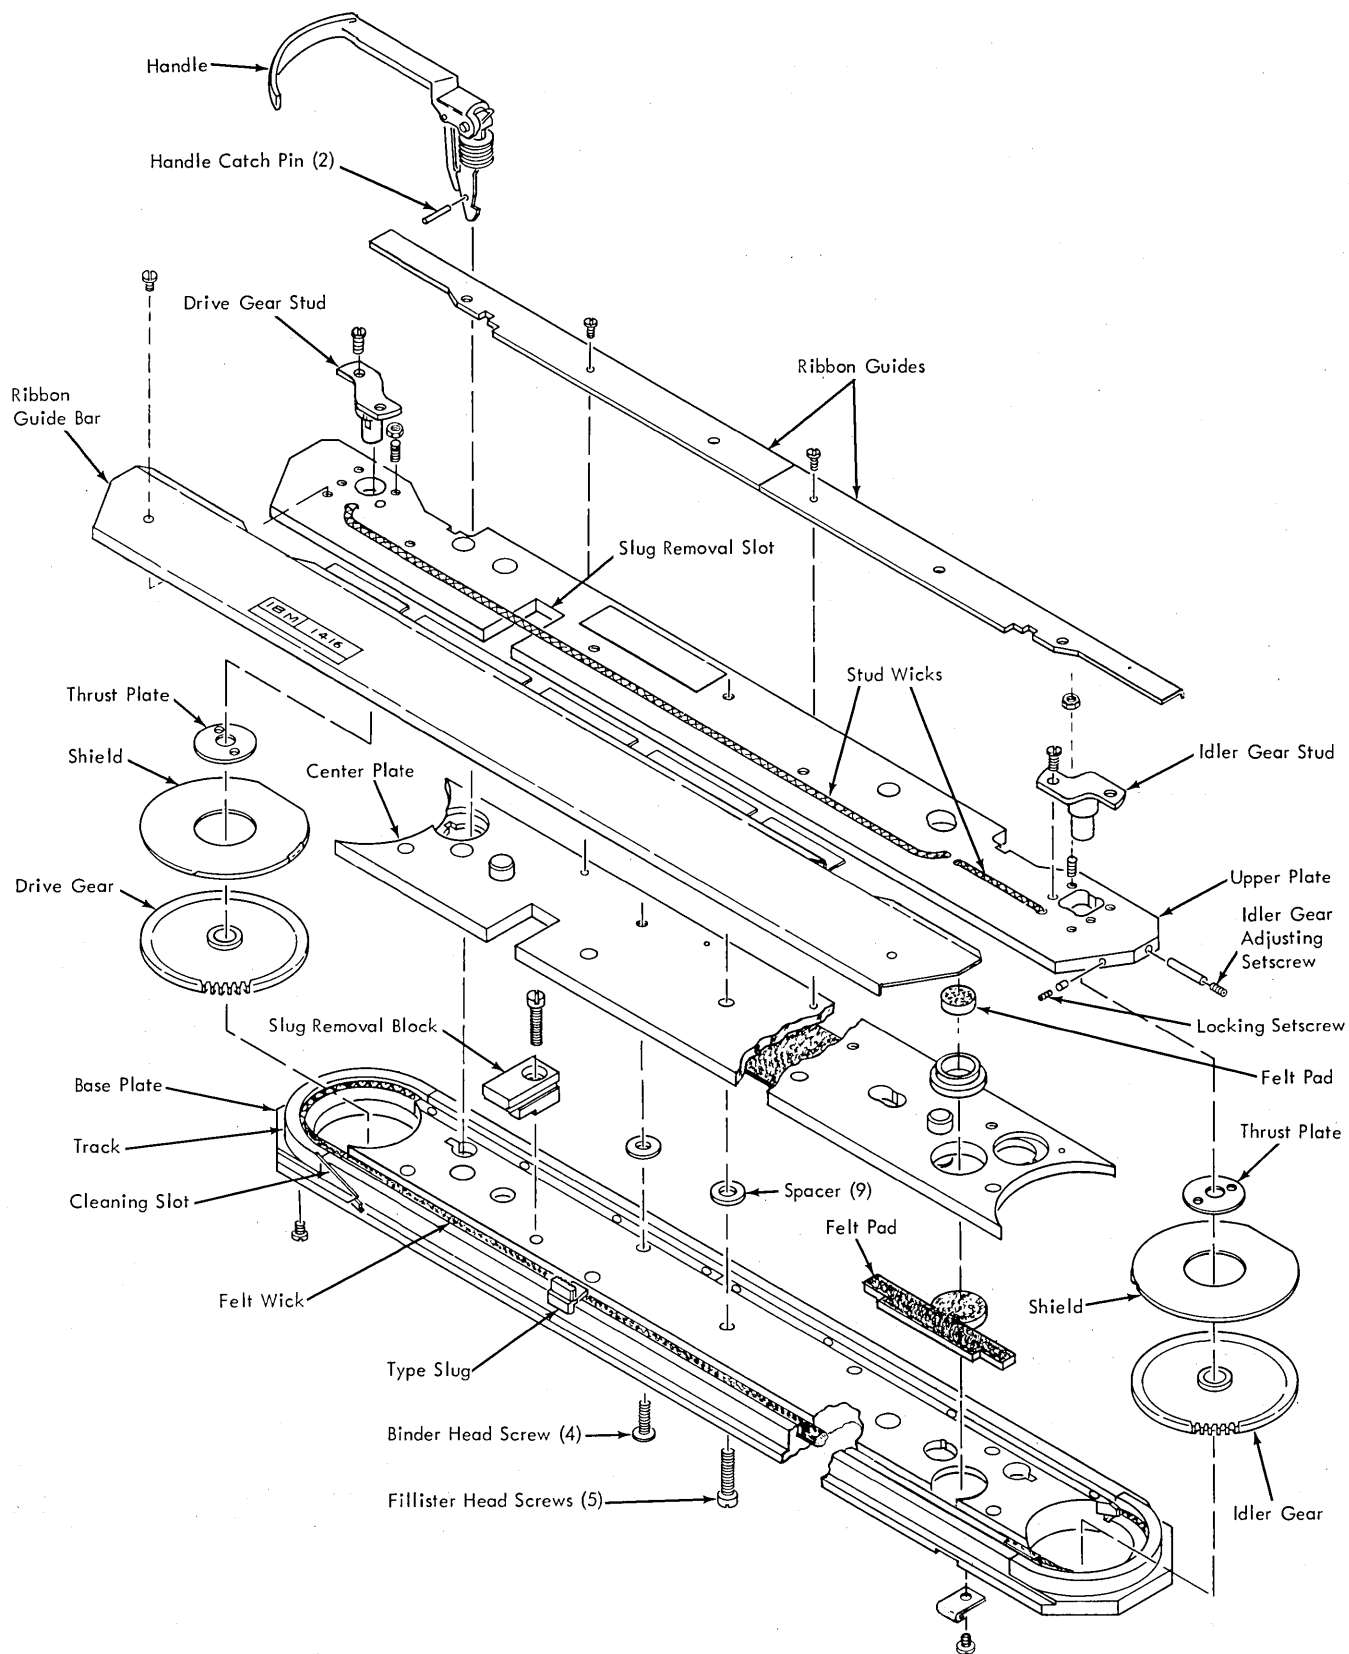

Figure 4-43. 1416 Interchangeable Train Cartridge
See Figure 4-43.
- a. Loosen the locking setscrew for the idler-gear adjusting setscrew (see Figure 4-43).
4. Remove the ribbon guide bar and the left and right ribbon guides. (See Figure 4-43.)